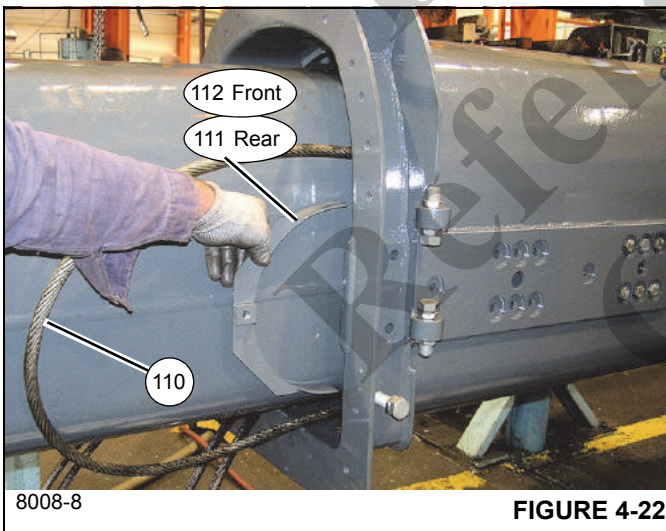

FIGURE 4-22
- 73. Extend tele 4 (5) one-quarter of the way out of tele 3 (4).
- 74. Remove the grease fitting (106) from each of the four shafts (104).
- 75. Remove the capscrew (113) securing the front guard weldment (112) over the tele 4 extend cable (110) (left and right sides) (see Figure 4-22).
- 78. Remove capscrew (113) securing the rear guard weldment (111) over the tele 4 extend cable (109) (left and right sides) (see Figure 4-22).